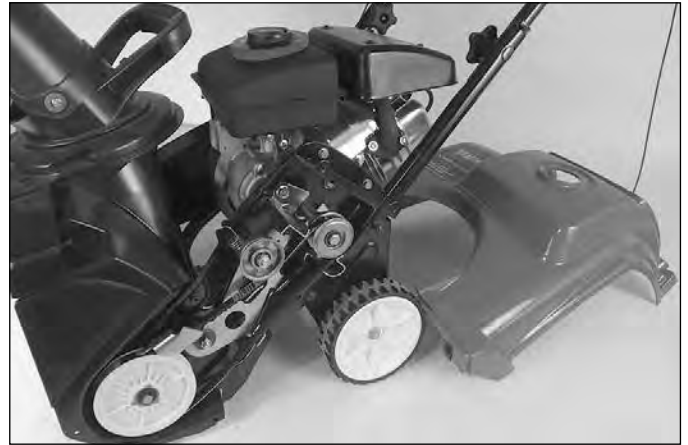

Fig. 016
3. Remove the shroud screws and fuel cap and remove the shroud. Reinstall fuel cap (Fig. 016).